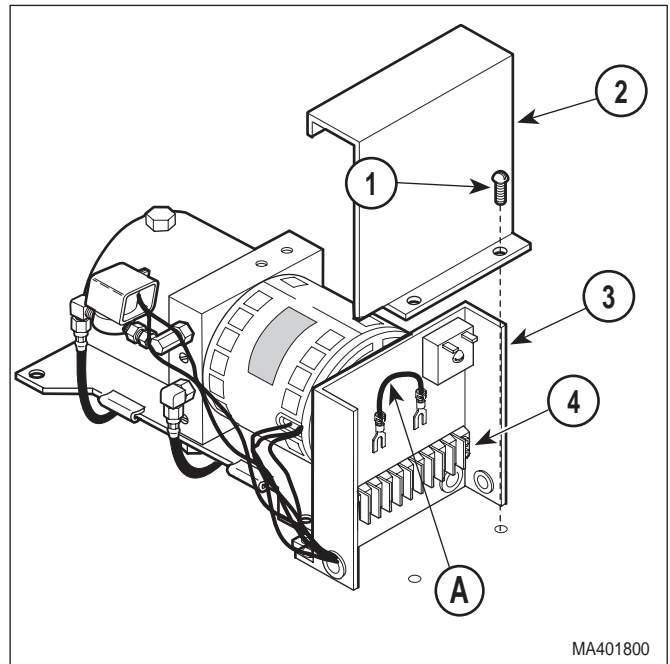

Figure 4-25. Jumper Wire Connection / Disconnection
- (2) Remove two screws (1, Figure 4-25) and control cover (2) from control panel (3).
- (2) Install bracket (6) and pan safety limit switch (2) as an assembly on seat weldment (7) and secure with two washers (5), lockwashers (4), and screws (3). Do not tighten screws fully.
- (3) Push pan slide assembly (A) inward until it "locks" into its fully stowed position.
- (4) Slide bracket (6) toward rear panel of pan slide assembly until trip arm (B) of pan safety limit switch (2) is firmly tripped by pan slide assembly. Tighten two screws (3).
- (5) Connect wire harness (1) to pan safety limit switch (2).
- (6) If installed, remove jumper wire (See Figure 4-25) from terminals of terminal block (4).
- (7) If removed, install control cover (2) on control panel (3) and secure with two screws (1).
- (8) If removed, install motor cover assembly (Refer to para 4.2).
- (9) Install upholstered seat section (Refer to steps 7 thru 9 of para 4.XX).